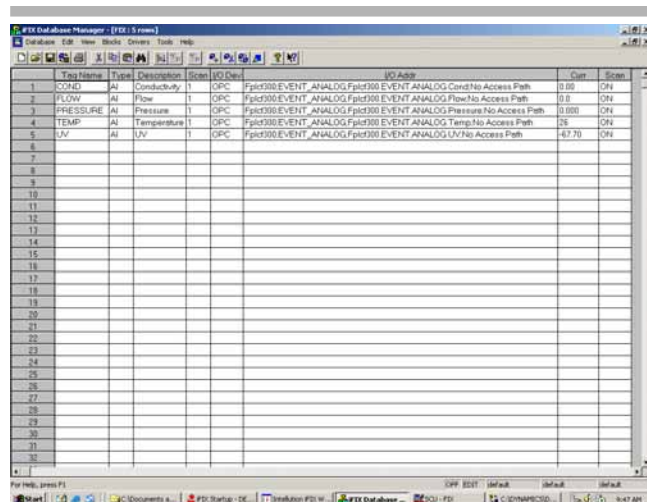

Fig 7.
- 3.12 When all items programmed, from main menu, **View** → **Refresh** (Fig 7).